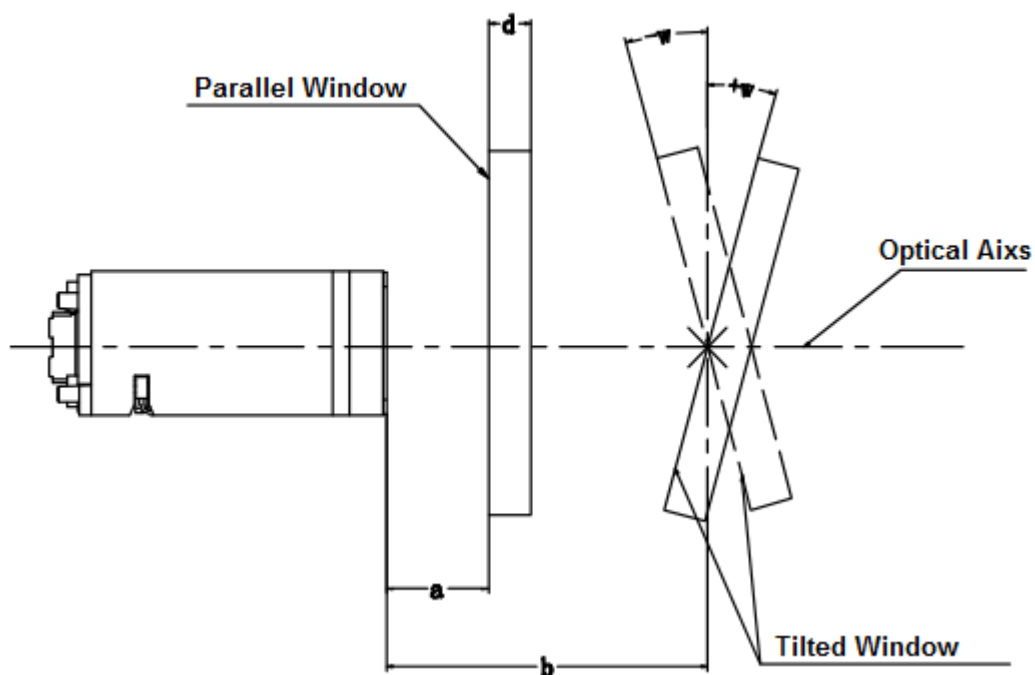

Figure 2-3
- **Parallel window** – Primary option for imager engines. The following window distance requirements should be satisfied: The maximum distance is measured from the front of the engine housing to the furthest surface of the window. In order to reach better reading performance, the distance from the front of the engine housing to the nearest surface of the window should not exceed **a** ($a=1\text{mm}$) and the distance from the front of the engine housing to the furthest surface of the window should not exceed **a+d** ($a=1\text{mm}$, $d=2\text{mm}$), as shown in **Figure 2-3**.